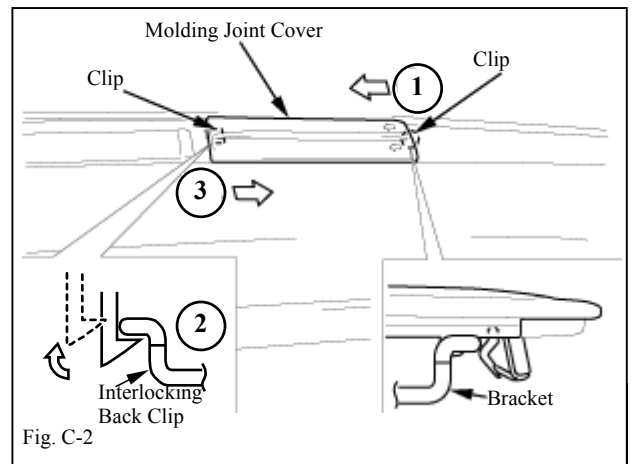

Fig. C-2
3. Remove the molding joint cover by pushing the molding joint cover in the direction of the arrow molded into the cover with your finger Fig. C-2 ①.
4. Disengage the cover from the interlocking back clip by lightly pulling up (Fig. C-2) ②, push the molding joint cover in the opposite direction ③ and remove the cover.